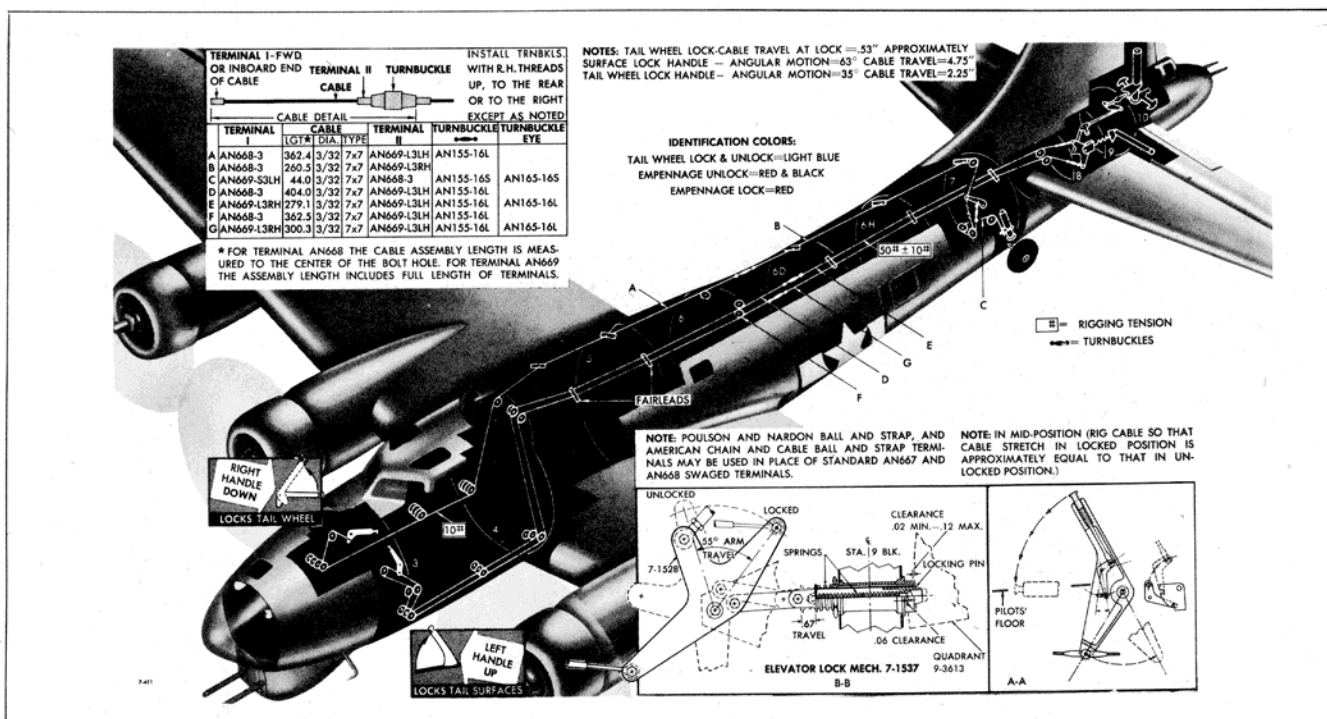

Figure 248—Tail Wheel and Surface Lock Control System
1. Both of the empennage surface control locks are operated simultaneously by one cable control system and a connecting rod between the horns on the elevator and rudder locking cranks. See figure 248.